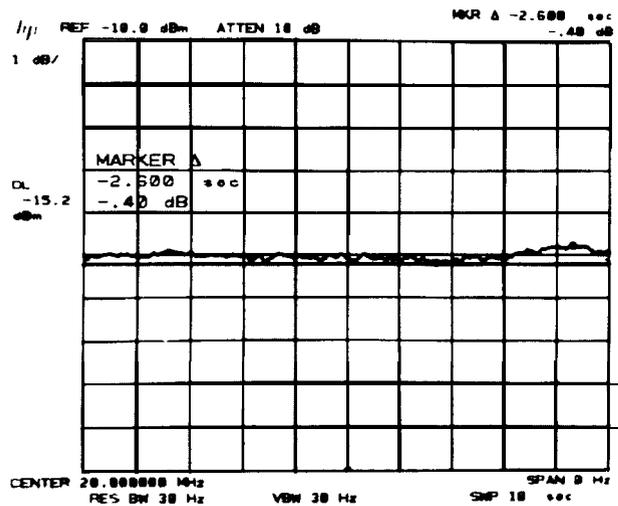

Figure 2-30. Peak-to-Peak Amplitude Measurement
13. Press MARKER Δ and position movable marker at the lowest point on the trace (see Figure 2-30). Read the MARKER A amplitude from the display and record its absolute value.